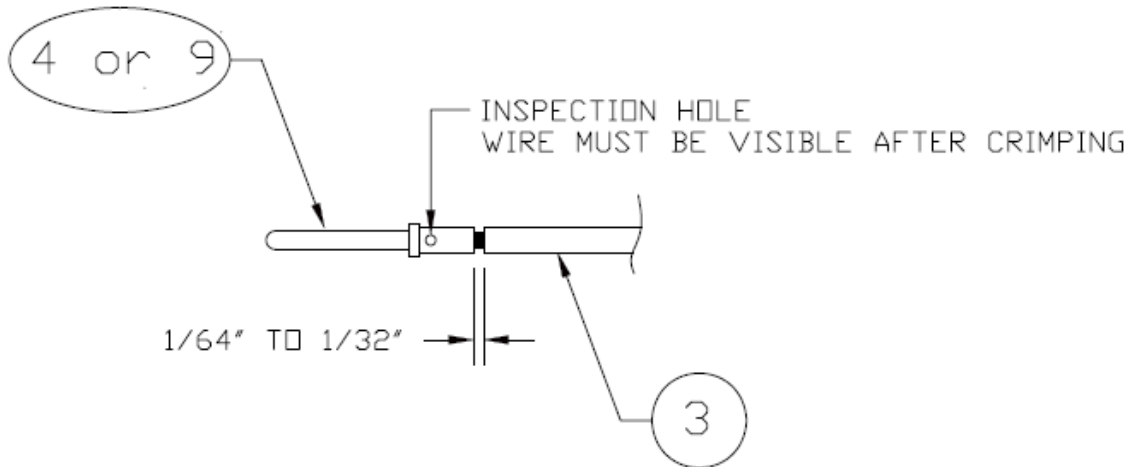
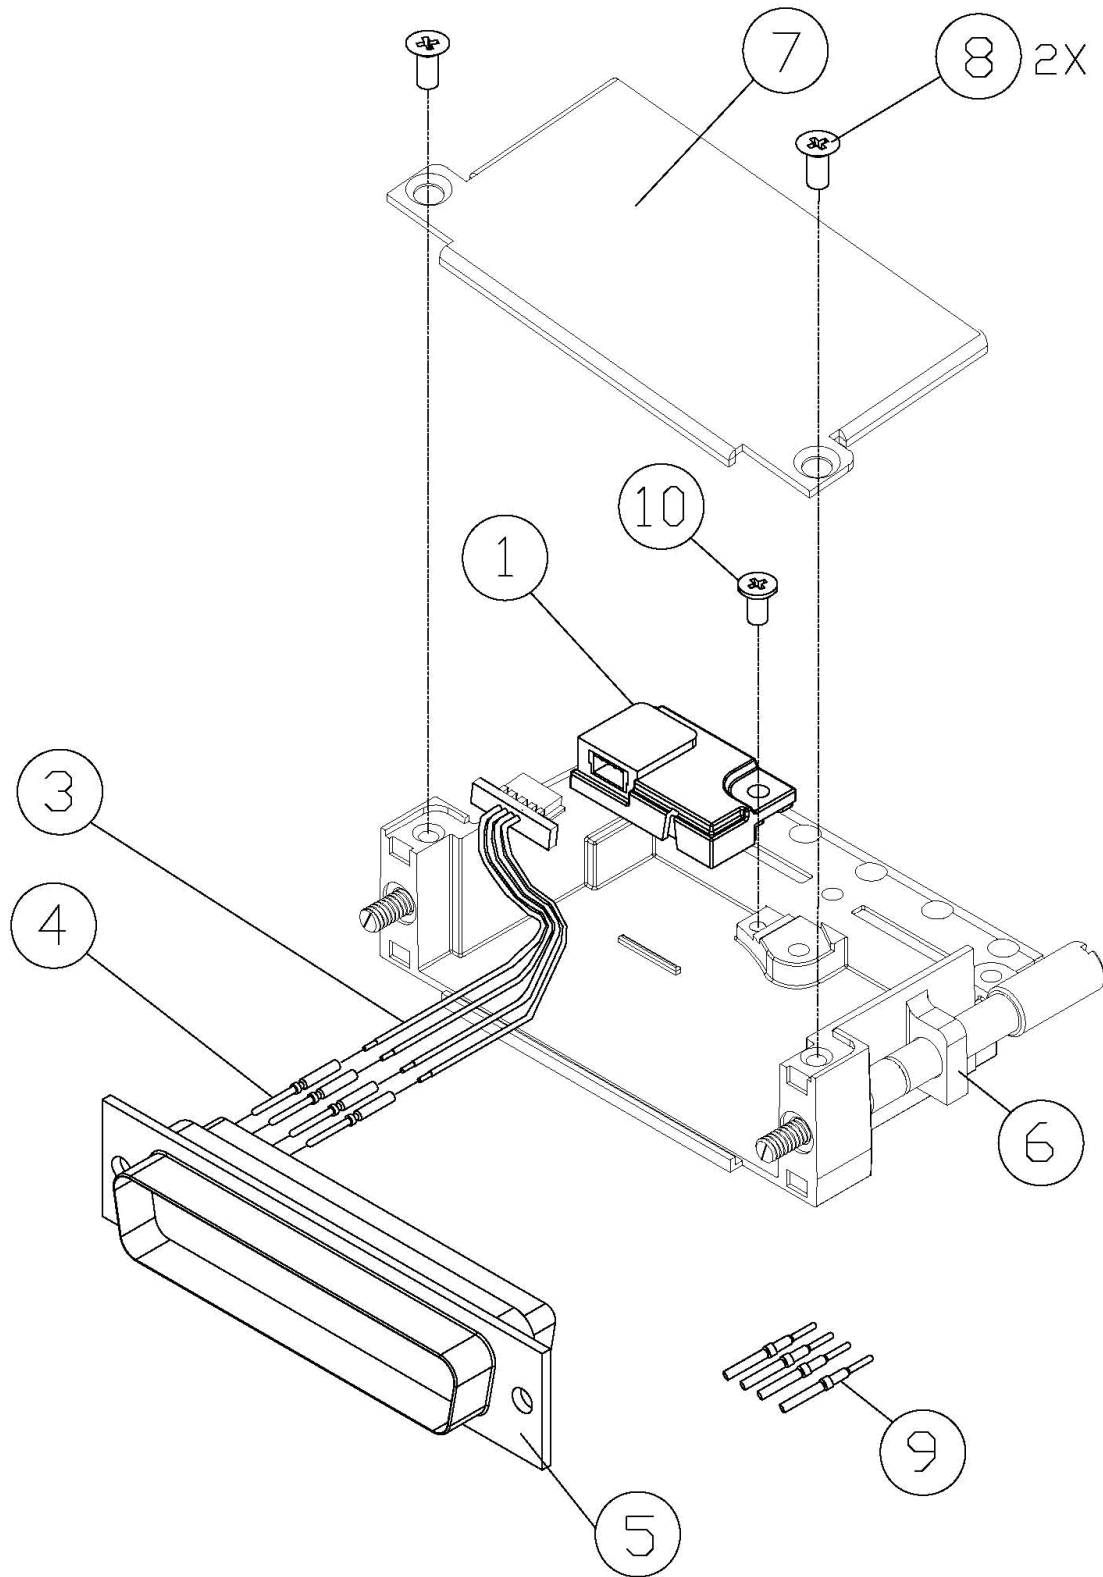

Figure 16-3 Insulation/Contact Clearance
Figure 16-4 Jackscrew Backshell Installation
For the following steps please refer to Figure 16-3 & Figure 16-4.
1. Strip back approximately 0.17 inches of insulation from each wire of the four conductor wire harness (item 3) and crimp either a pin (item 4) or a socket (item 9) to each conductor. It is the responsibility of the installer to determine the proper length of insulation to be removed. Wire must be visible in the inspection hole after crimping and the insulation must be 1/64 – 1/32 inches from the end of the contact as shown in Figure 16-3.